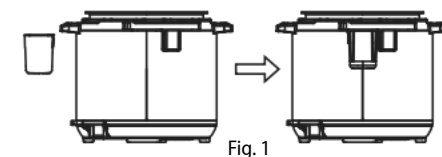

Fig. 1
2. Place the condensate container (6) in the appliance as shown in Fig. 1.